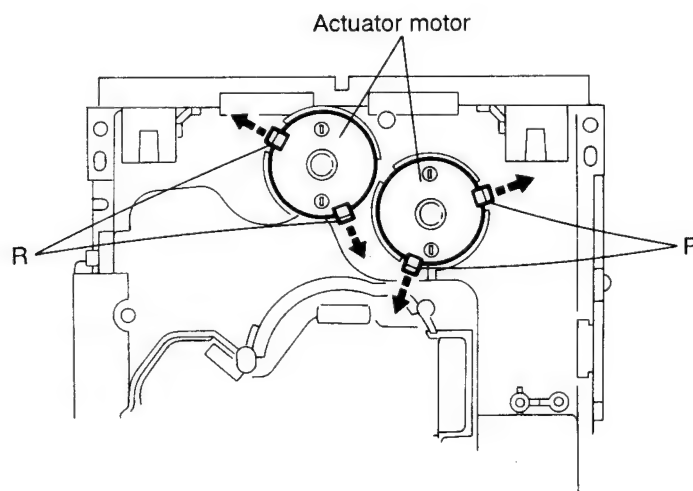

Fig. 5-42
5. After turning over the chassis assembly, remove the actuator motor while spreading the four pawls (R) fixing the right and left actuator motors in the arrow direction (See Fig. 5-42).